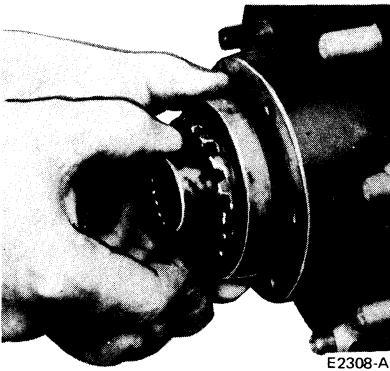

FIG. 16 Bushing and Inner Clutch Gear Installation
3. Install the bushing and inner clutch gear onto axle shaft, making sure the splines of the inner clutch gear are aligned with the splines of the axle shaft, as shown (Fig. 16).